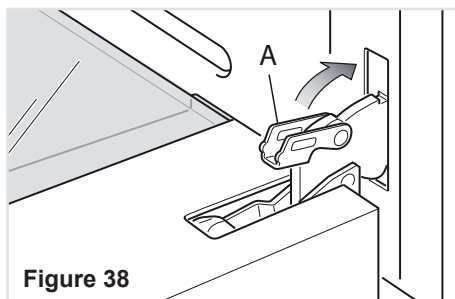

Figure 38
4. Unlock the oven door by opening it completely and closing the lever "A" on the left and right hinges (fig. 38).